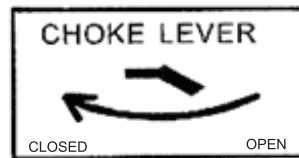

Figure 7- Push choke left to close. Pull lever right to open.
5. Move the choke lever to the “CLOSED” position (see figure 7).